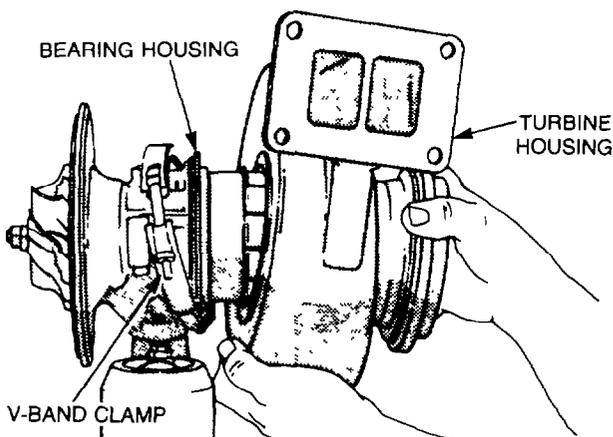

Figure 153 — Turbine Housing — Installation
- n. Position the V-band clamp (see Fig. 139, item 10) on the bearing housing (item 14) as shown in Fig. 153, then coat the bearing housing and the turbine housing (items 1 and 14) mating surfaces with a suitable anti-seize compound. Install the turbine housing (item 1) onto the bearing housing (item 14) and position the V-band clamp (item 10) over the flange.